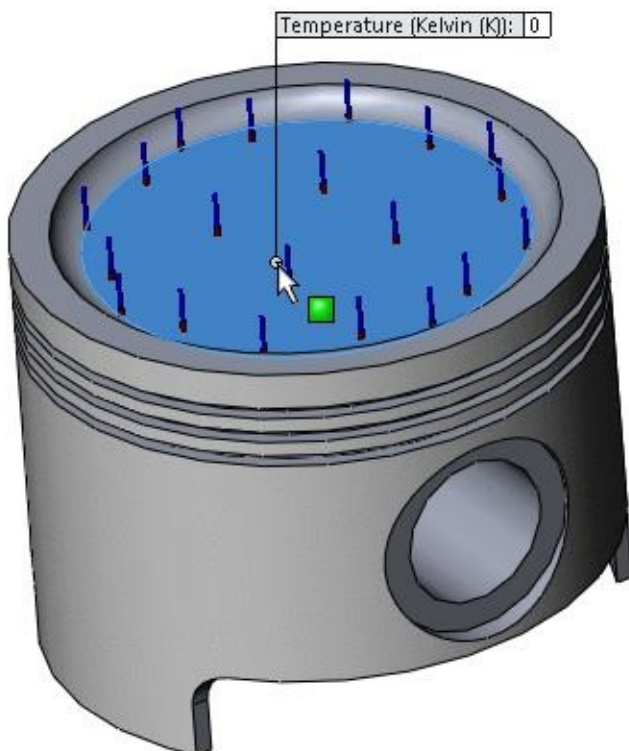

Figure-15. Face of model to be selected
- Select the face of the model as shown in Figure-15.